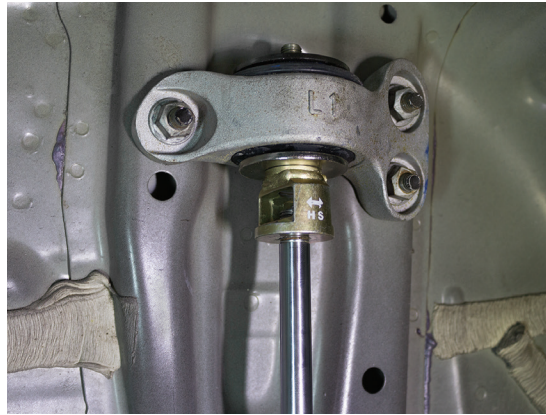

fig. D.11
6. Reinstall the upper shock nuts. Torque to 43Nm (32 lb.-ft.) (Fig. D.11).